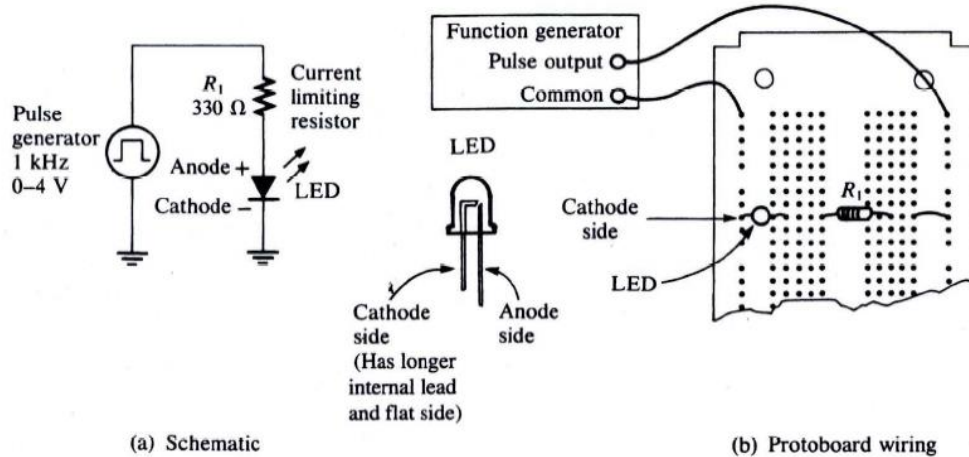
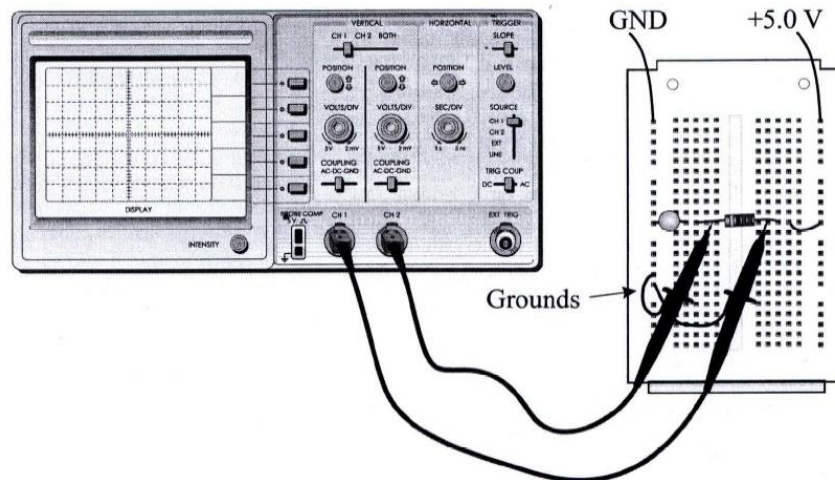

Figure L1.3: Example
Figure L1.4: Oscilloscope for measuring voltage across the resistor
8. You should obtain a stable display that allows you to measure both the time information and the voltage parameters of the waveform. (If the waveform is not stable, check triggering controls.) In Plot I of your report, sketch the observed waveform on the scope display. It is a good idea, whenever you sketch a waveform from a scope, to record the VOLTS/DIV and SEC/DIV settings of controls next to the sketch and to show the ground level. Measure the pulse width (tti), period (T), and amplitude of the waveform and record these values in Table 1-2. The amplitude is measured in volts.
9. Connect the LED and series-limiting resistor, R1, to the pulse generator as shown in Figure L1.3. Note that the LED is a polarized component and must be connected in the correct direction to work. The schematic and an example of protoboard wiring are shown. Measure the signal across the LED with the oscilloscope and show it in Plot 2 of your report. Label the scope settings as in step 8 and show the ground level.
10. Sometimes it is useful to use an oscilloscope to measure the voltage across an ungrounded component. The current-limiting resistor, R_1 , in Figure L1.3 is an ungrounded component. To measure the voltage across it, connect both channels of your oscilloscope as shown in Figure L1.4. Make sure that both channels are calibrated and that the vertical sensitivity (VOLTS/DIV) is 1 V/div for each channel. If you are using a newer scope, the difference operation (Channel 1-Channel 2) is likely to be shown as a menu item. On older scopes, the difference measurement is done by inverting channel 2 and selecting the ADD function. Consult the operator's manual if you are not sure. Measure the signal across R_1 and show the result on Plot 3. As a check, the sum of the voltages across the LED and resistor should be equal to the voltage of the generator.